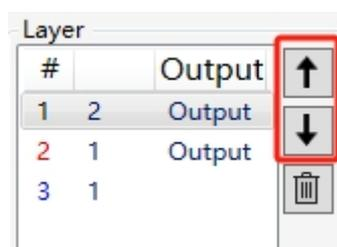

Fig. 5.1.2f Up and Down Key Move Order
② Select the layer (the selected effect is shown in Fig. 5.1.2b), click the up and down keys, as shown in Fig. 5.1.2f. After clicking the down button, layer 1 and layer 2 will swap positions, as shown in Fig. 5.1.2e.